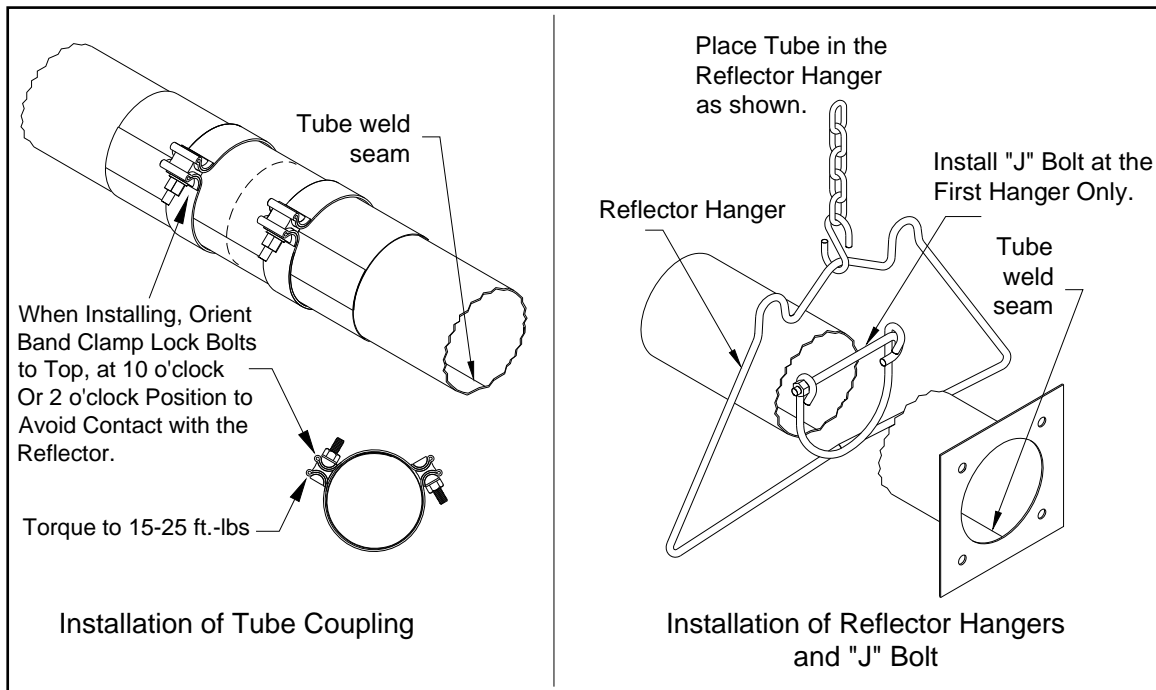

Figure 9: “J” Bolt and Coupling Installations
- Tighten the cradle loops of the first hanger with the “J-Bolt” found in the burner box, to snugly hold the combustion tube from rotating (Figure 9).
Note: *In order to obtain smoothly sealed coupling liners, tighten each of the coupling bands progressively and alternately. Tightening one band completely before the other may result in an undesirable wrinkle in the liner (Figure 9). Be sure not to over torque the coupling. (Torque coupling to 15-25 ft-lbs).*